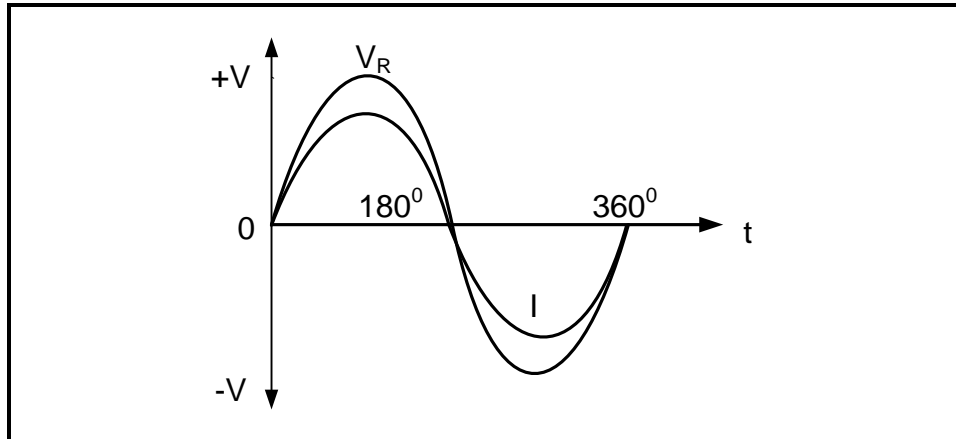

FIGURE 3.2.1: VOLTAGE AND CURRENT WAVEFORMS
3.2 Draw the phasor diagrams for FIGURES 3.2.1 and 3.2.2 in the ANSWER BOOK.